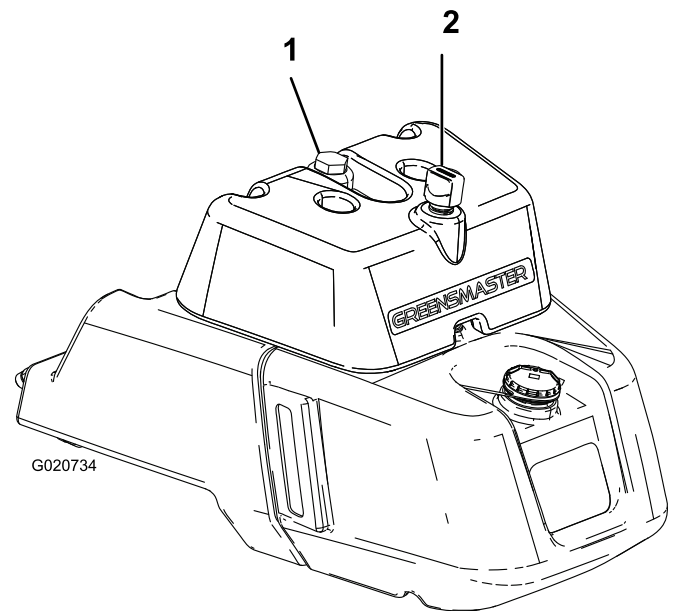

Figure 24
2. Remove the cap from the reservoir (Figure 24).